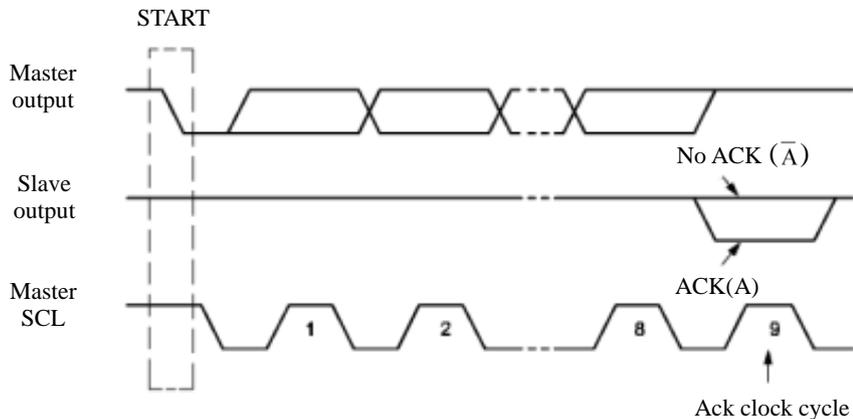

Figure 15-5 IIC bus acknowledge signal
Restart signal (repeated START): on IIC bus, master send a start signal to start-up one time communication, before first time sending stop signal, by sending a repeated start, master can change the communication mode with current slave or switch to communicate with other slaves. As figure 15-5 shown, when SCL is high, SDA transition from high to low, a repeated start signal is generated, it is a start signal essentially.
Acknowledge signal (A): after slave received 8 bit data, it will send to master a special low level. Every byte must be followed by a acknowledge bit to indicates data has been received. Acknowledge appeared at the 9th clock cycle, the master must release data line at this time, and slave pull down the SDA line to generate acknowledge signal, or slave maintain the SDA line as high to generate a no acknowledge(\bar{A}), as Figure15-5 shown. So one byte transmission needs 9 clock cycle. If slave as receiver send no acknowledge signal to master, the slave will end the transmission, and release SDA line. Any above cases will end the data transmission. At this time master sends stop signal to release bus, or generates repeated start signal to restart a new transmission. Start signal, repeated start and stop signal are all controlled by master, acknowledge signal is generated by receiver.